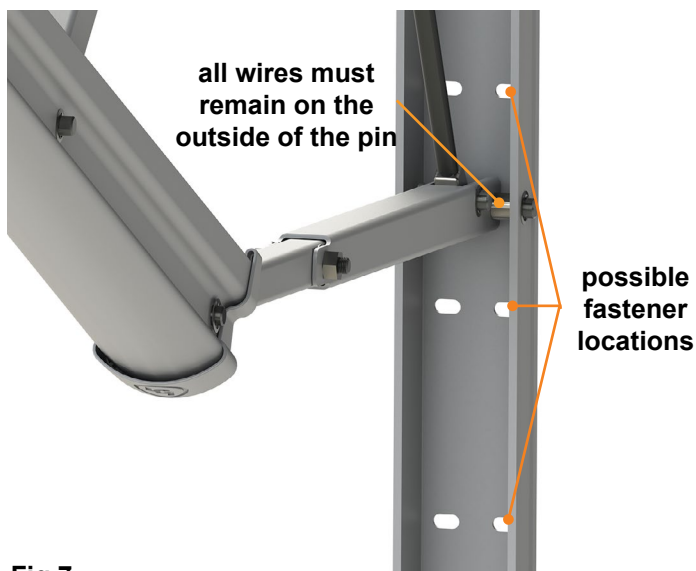
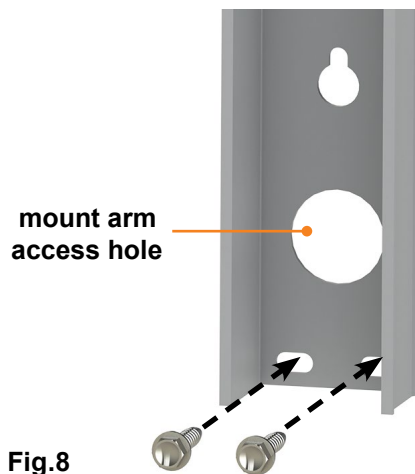

Fig.7
Fig.8
5. Finish the task of securing the mount arms. Make sure the awning assembly is square on the unit prior to completion. Use two #14 x 1 1/4" screws in one of the provided locations in the middle of the arm (**Fig.7**), and two #14 x 1 1/4" screws (**Fig. 8**) in the bottom of the arm.
9. Run the wires from the unit through the provided access hole in the mount arm (**Fig.8**).
**NOTE:** If top install, make sure all wires are always on the outside of the pin that secures the pitch arm to the mount arm. (**Fig.7**).